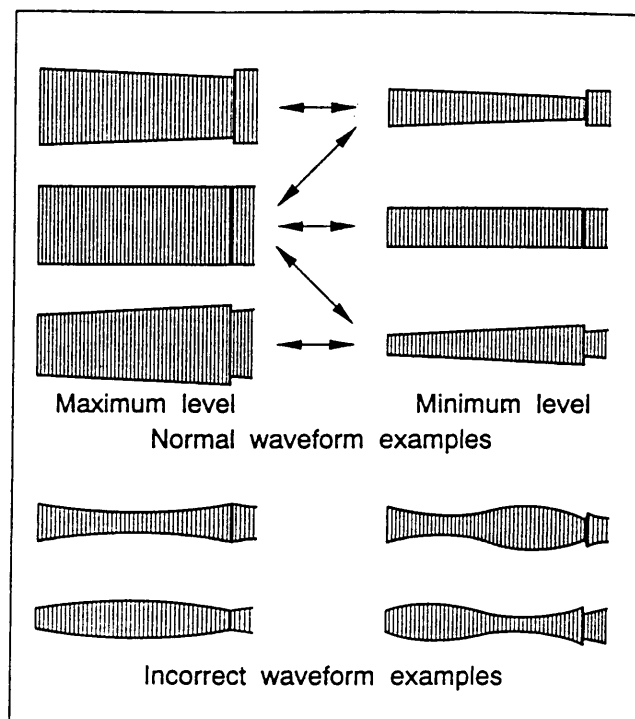

Fig. 2-7-1
- (1) Connect the oscilloscope to TP6(PB FM) on the PRE/REC board.Use TP11(D.FF) on the PRE/REC board as a trigger.
- (2) Playback the SP stairstep portion of the alignment tape [MHPE].Confirm that the FM waveform appears as indicated in Fig.2-7-1.
- (3) Set the manual tracking position by pressing the **///** button on the remote controller or TV PROG **-** and **+** buttons simultaneously.
- (4) Operate the tracking adjustment (press the TV PROG buttons during playback) and set for maximum playback FM waveform.
- (5) By operating the TV PROG button,vary the FM waveform from maximum to minimum and vice versa to confirm that the waveform varies nearly in a flat shape as shown in Fig.2-7-1.